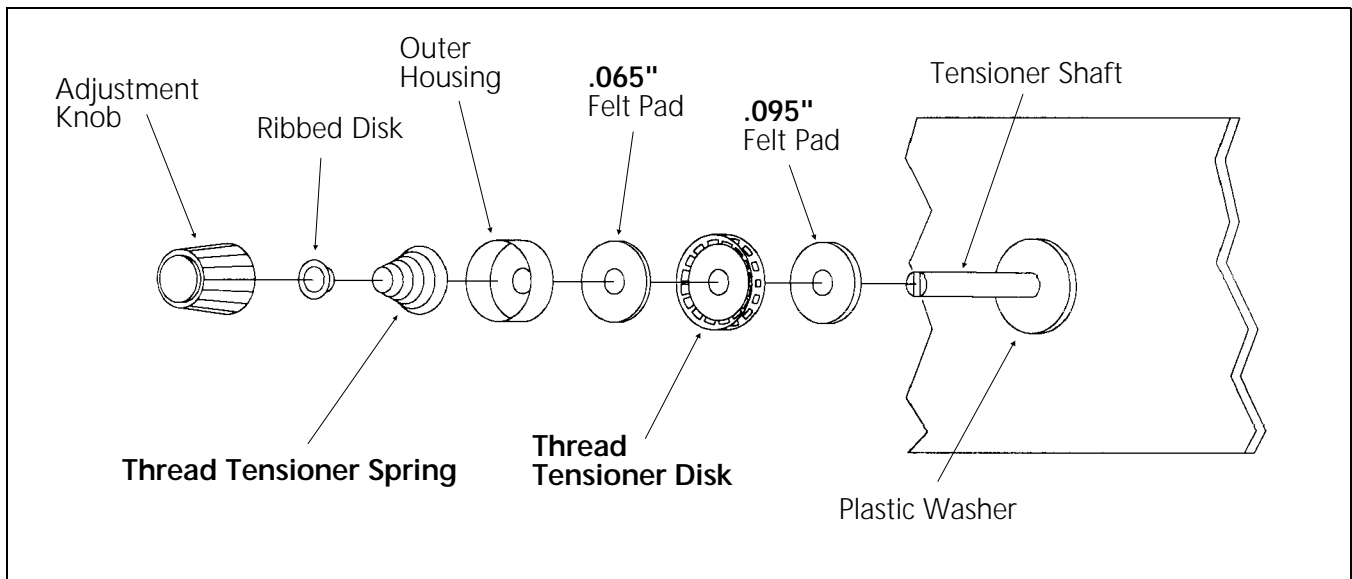

Figure 1
2. Refer to Figure 1 to remove the thread tensioner knob from the tensioner on the embroidery peripheral.
5. Refer to Figure 1 for identification, then obtain the felt pads, the thread tensioner disk, and the thread tensioner spring from the kit.
10. Next, place the new thread tensioner spring as shown in Figure 1 so its widest ends fits into the outer housing.